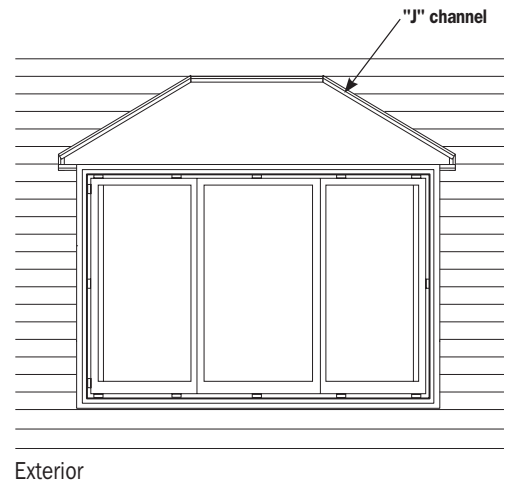

Figure 5
- Installer should properly cap (coil stock, J-Channel, etc.) and seal (with high-grade exterior sealant) any gap between projection window's exterior frame and the sheathing of structure, including sill (**Figure 5**).